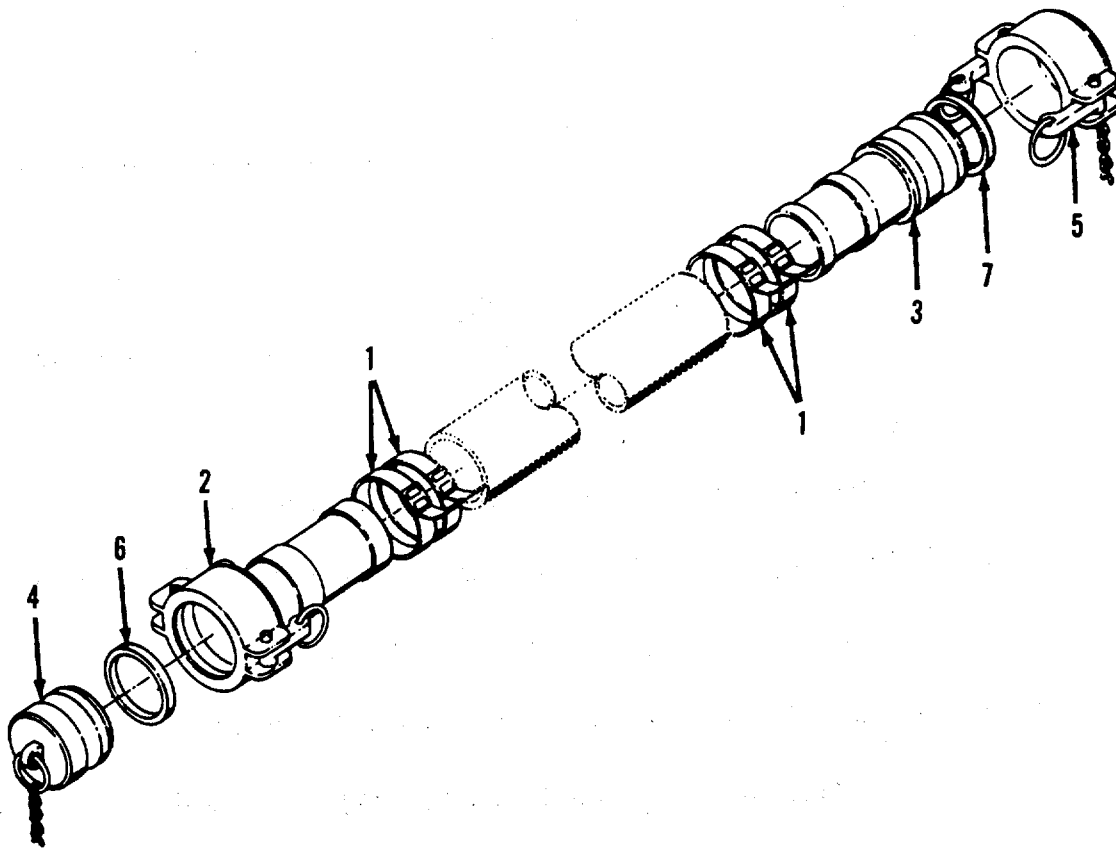

Figure 4-1. Hose Assembly.
Repair. (Refer to Figure 4-1.)
- (3) (Refer to Figure 4-1.) Install gaskets (7) and (6) into quick disconnect cap (5) and female coupling half (2).
- (4) Install quick disconnect cap (5) onto male coupling half (3).
- (5) Install quick disconnect plug (4) into female coupling half (2).